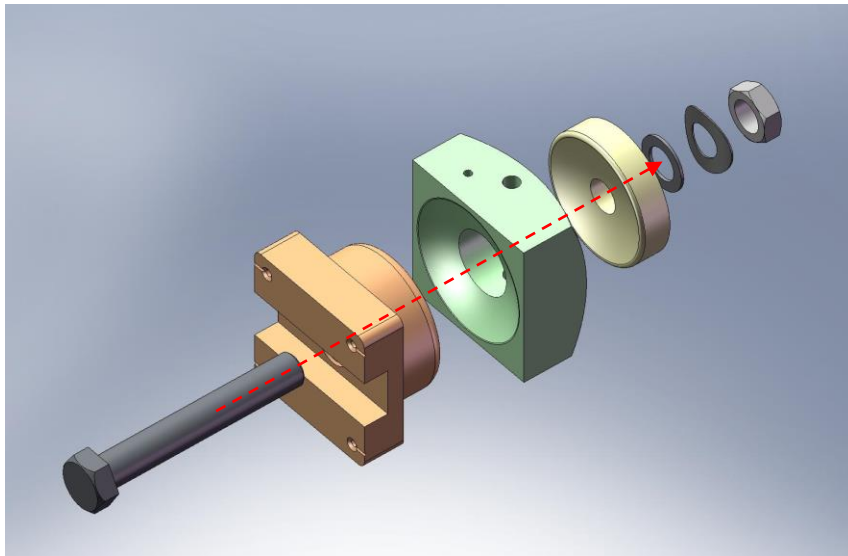
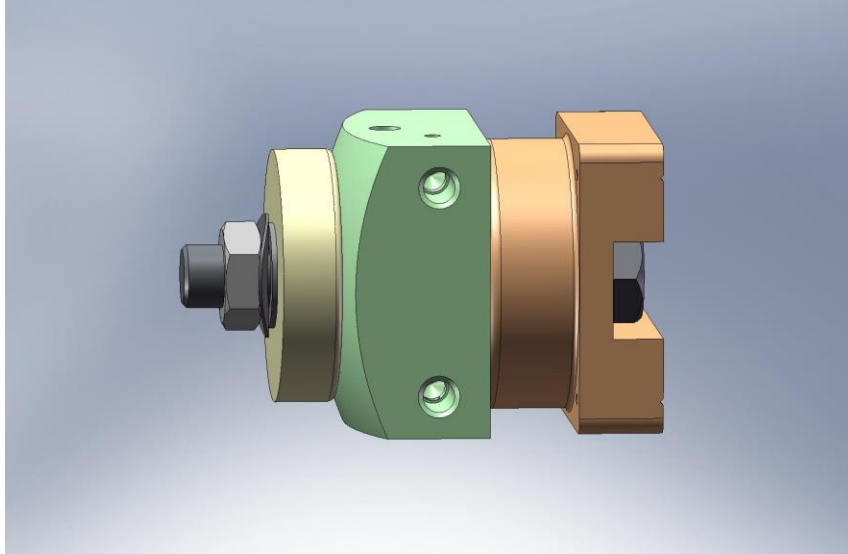

Figure 4.39. Exploded view of sensor spherical mount. This is a sub-assembly of the Position Sensor Assembly (D071464).
Figure 4.40. Assembled spherical mount. Roughly align Base to Mount, so sides are parallel to one another. Tighten jam nut until assembly is rigid.
- Repeat preceding steps for all (6) **Position Sensor Target Assemblies**.
- Assemble spherical mount, as shown in Figure 4.39 and Figure 4.40. Slide a hex head cap screw through the **Sensor Head Base** (D071161), **Sensor Head Mount** (D071163), and **Sensor Head Washer** (D071162), in that order. Place washers over exposed end of screw, and tighten **D0900209 silver-plated** nut until assembly is rigid. Repeat for all (6) **Position Sensor Assemblies** (D071464).